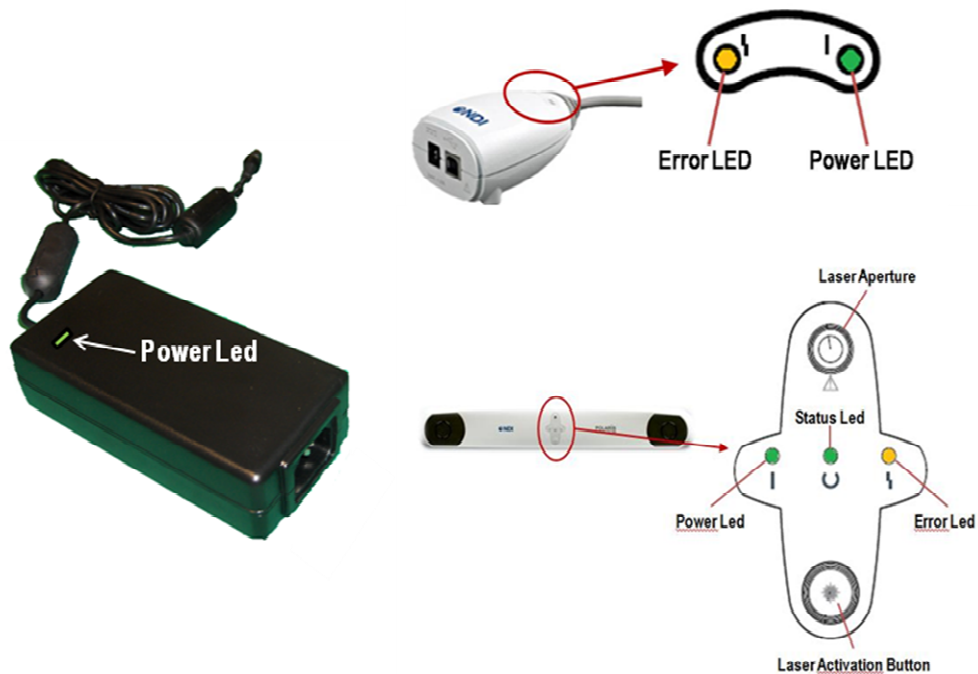

Figure 18 – LEDs on Polaris Spectra System
Check that the LED on the power supply unit and the green Power LED (I) on the Host USB Converter become on and the Power LED (I) on the front of the camera starts flashing (figure 18).
Never disconnect the power cable or the 14-pin cable when the amber light (error LED ) on the front of the Position Sensor (figure 18) is on. Check that the system is off before disconnecting any of these cables.
The power, status and error LEDs on the Position Sensor indicate the status of this component as described in the following table (Figure 18).
On the Host USB Converter there are two LEDs (Figure 18): the Power LED (green light) and the Error LED (amber light). They show the status of this component as described below.